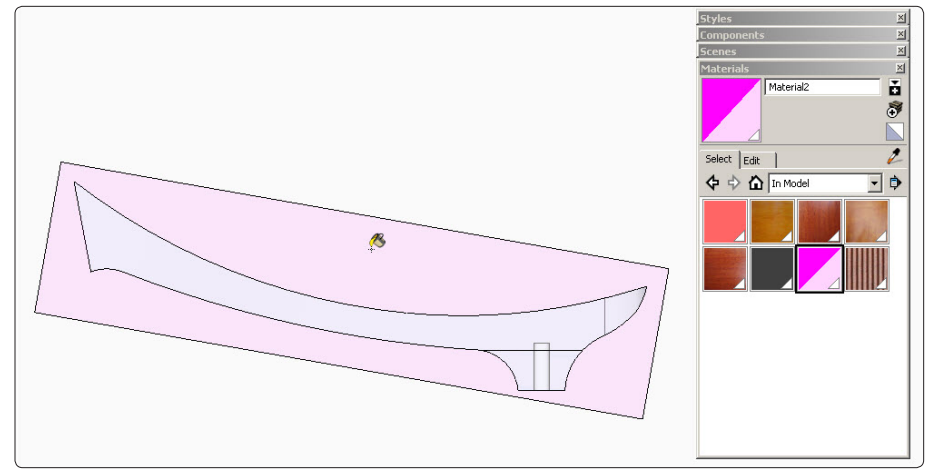

Figure 6. Use the Paint Bucket Tool to fill the lumber blank with the new color.
Step 4 The new material will appear in a square at the top of the dialog box, and the cursor will change to the Paint Bucket Tool. Click the Paint Bucket Tool on the face of the lumber blank to fill it with the newly created low-opacity magenta, as shown in Figure 6.